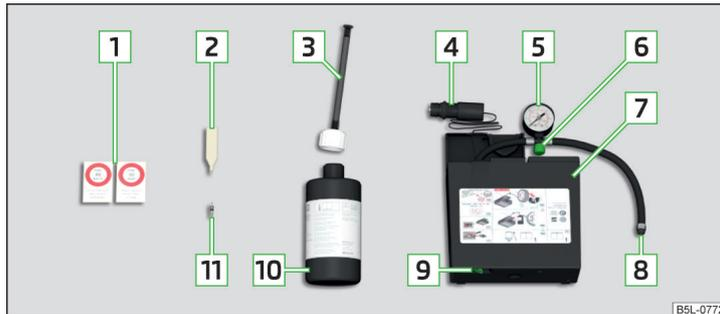

Fig. 178 Principle sketch: Components of the breakdown kit
Components of the kit » Fig. 178
- Stick the sticker  » Fig. 178 on page 204 on the dashboard in the driver's field of view.
- Forcefully shake the tyre inflator bottle  » Fig. 178 on page 204 back and forth several times.
- Screw the air compressor tyre inflation hose  » Fig. 178 on page 204 firmly onto the tyre valve.